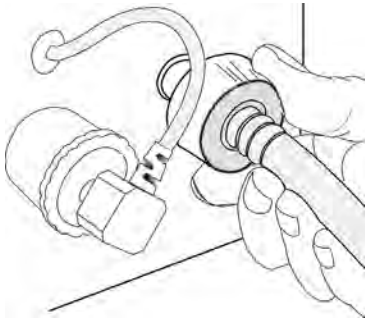

Figure 7.23 O₂ hose connection
- Attach one arm of the tubing to the manometer and connect the other (with the correct DISS fitting) to the high pressure O₂ inlet on the rear of the instrument shown in Figure 7.23.